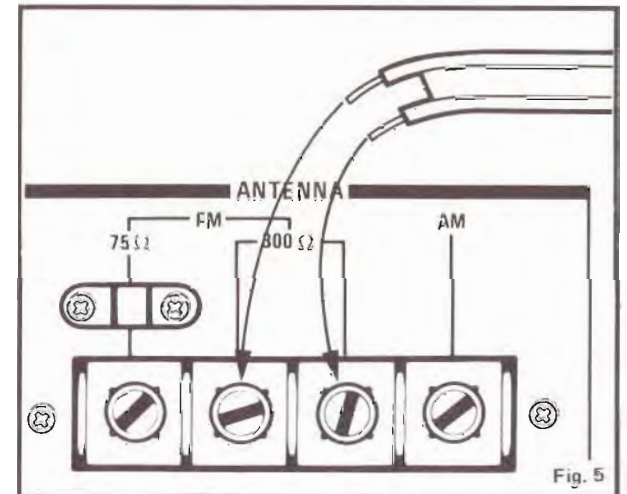

Fig. 5
- 300-Ohm flat feeder antenna with two leads (provided): (Fig. 5)